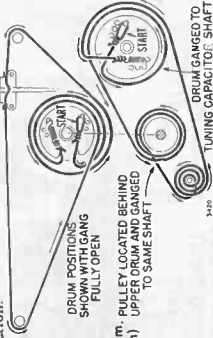

Figure 21. Dial Stringing Diagram (Early Production)
2. Rotate drums until they are positioned as shown in figure 21. The AM tuning gang should be set fully open.
3. String front or rear pulley system or both according to figure 21 or 21A. Figure 21 shows dial stringing for early production.